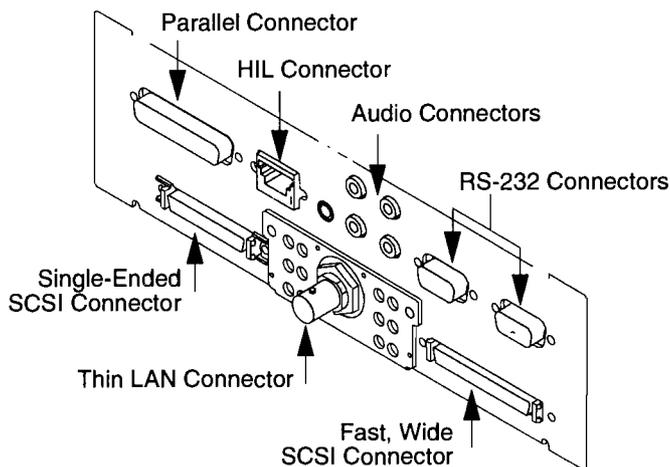

Figure B-1. Core I/O Board Cable Connections
3. Disconnect all cables from the rear of the core I/O board as well as the ac power cord from the power supply and the ac power source. Figure B-1 shows the locations of the various connectors on the rear of the board.